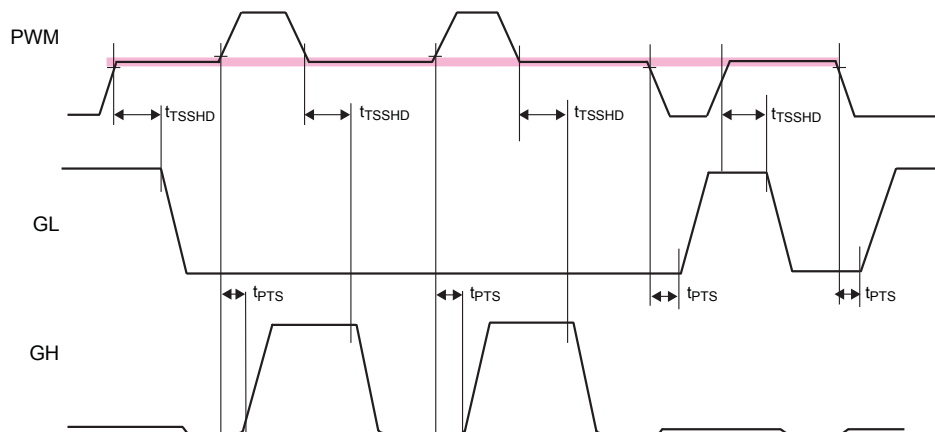

Figure 2. Tri-State Input Logic Timing Diagram
The PWM is also a tri-state compatible input. When the input is high impedance or unconnected both the gate drives will be off and the gates are held active low. The PWM Threshold Table in Table 1 lists the thresholds for high and low level transitions as well as tri-state operation. As shown in Fig. 2, there is a hold off delay between the corresponding gate drive is pulled low. This delay is typically 175ns and intended to prevent spurious triggering of the tri-state mode which may be caused either by noise induced glitches in the PWM waveform or slow rise and fall times.
**Note:** See Figure 2 for propagation delays and tri-state window.